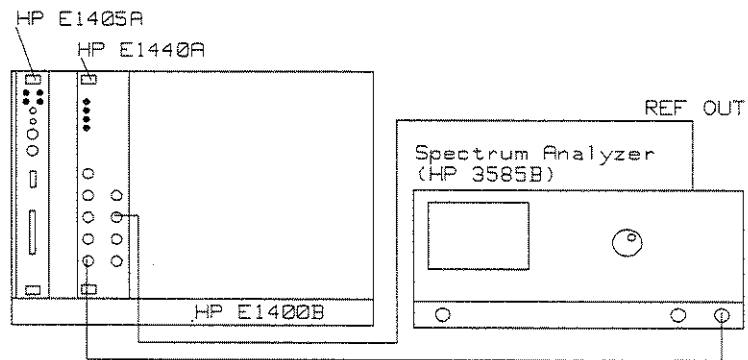

Figure C-4. Mixer Spurious Test Set-Up
1. Connect the HP E1440A signal output to the spectrum analyzer 50Ω (RF) input and the HP E1440A REF IN to the analyzer 10 MHz reference output, as shown in Figure C-4.